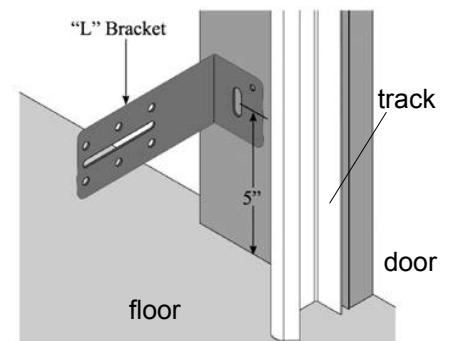

Figure 1 - "L" Bracket Installation
1. Select and mark a mounting location at 5"(15,7 cm) above the floor. The sensors should be mounted as close as possible to the door track or the inside edge of the door, to offer maximum entrapment protection, as seen in Figure 1. It is very important that both of the wall mounting brackets be mounted at the same height for proper alignment. Repeat this step and install the 2nd wall mounting L shape bracket to the opposite side of the door.